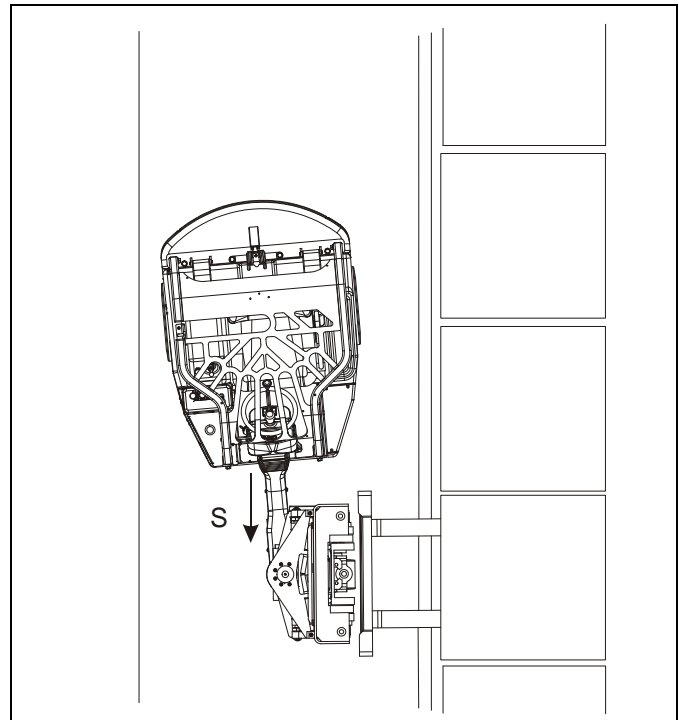

Figure 4-13: Positioning the Forks
6. Stop the forklift and turn the forks 90° using the steering wheel to align them with the load. See Figure 4-13.